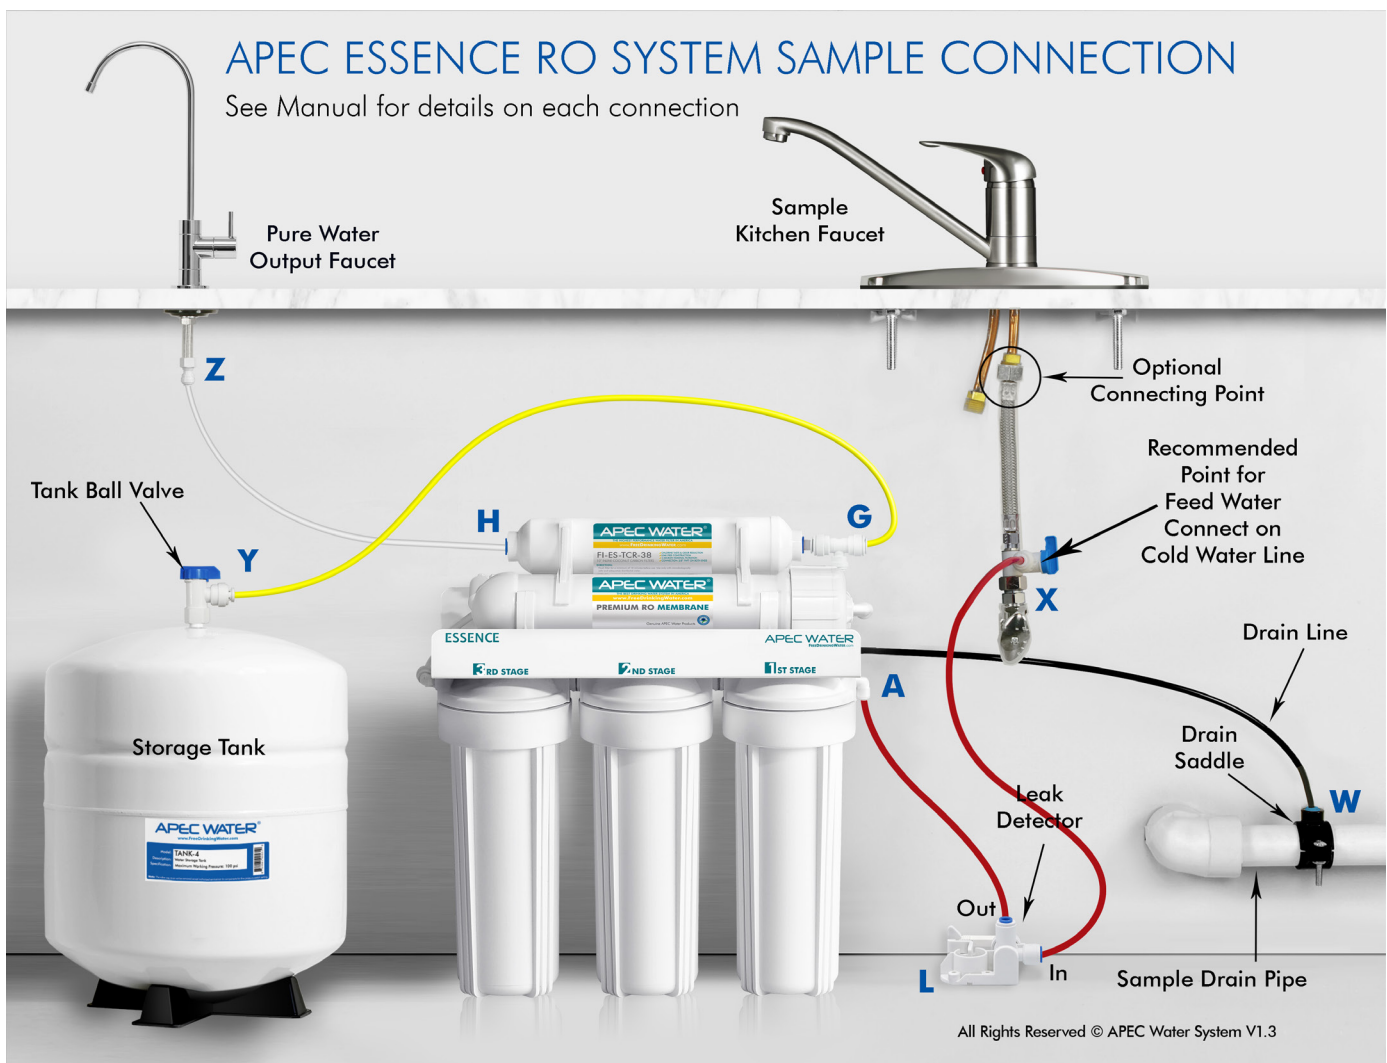
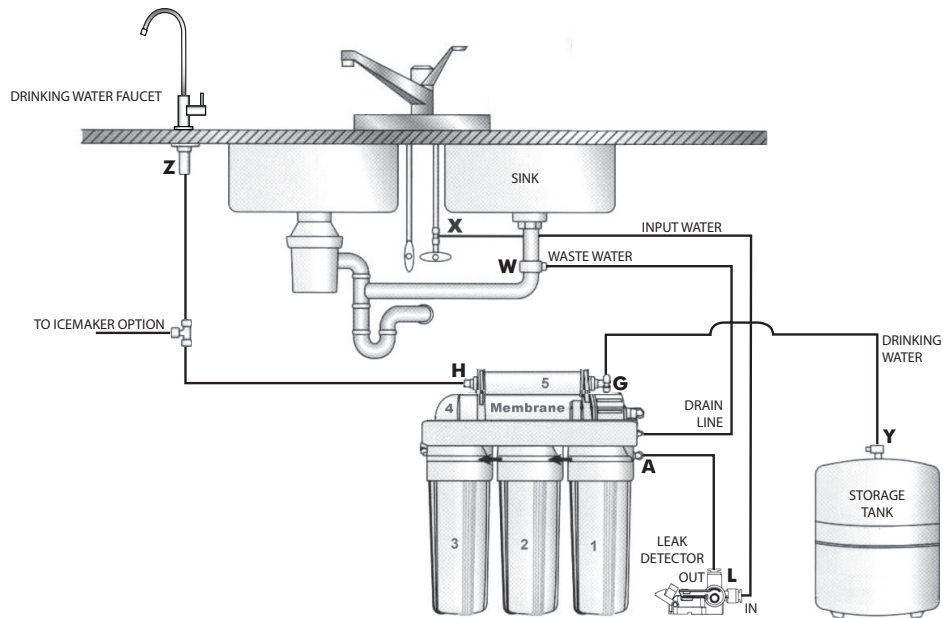

Fig. 11
Fig. 11A
There are 4 connections: See Fig. 11 & Fig. 11A.
To ensure a smooth and correct installation, please connect the water lines **following the sequence and order** outlined below. Refer to **Fig.11 & 11A** for proper point locations.
4. Point L to A - System water inlet to Leak Detector (To Stage 1 pre-filter) connection See Fig 11(Page 13):